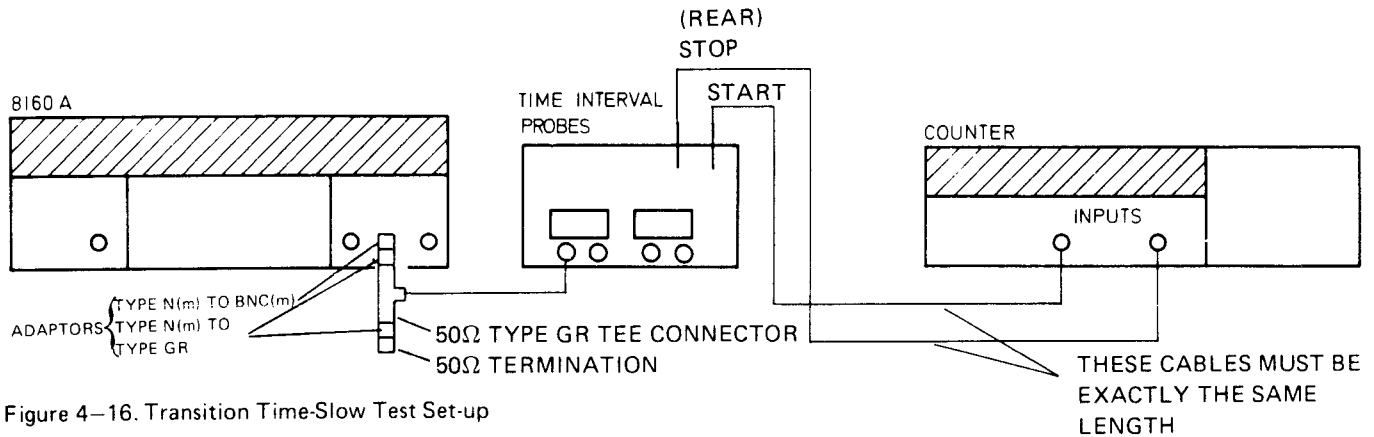

Figure 4-16. Transition Time-Slow Test Set-up
1. Connect equipment as shown in fig. 4-16.